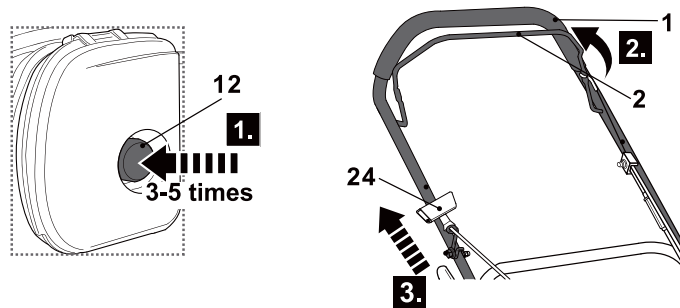

Fig. 18
1. Press the primer (12) three to five times (Fig. 18, step 1).
2. Stand behind the handle (1).
3. Pull the brake bar (2) against the handle (1) and hold it in position with one hand (Fig. 18, step 2).
4. Pull the recoil starter handle (24) lightly until you feel resistance then pull it rapidly. Do it again until the engine starts (Fig. 18, step 3).
5. When you are ready to mow, hold the brake bar (2) with the handle (1) and push the mower forward. The product starts mowing.